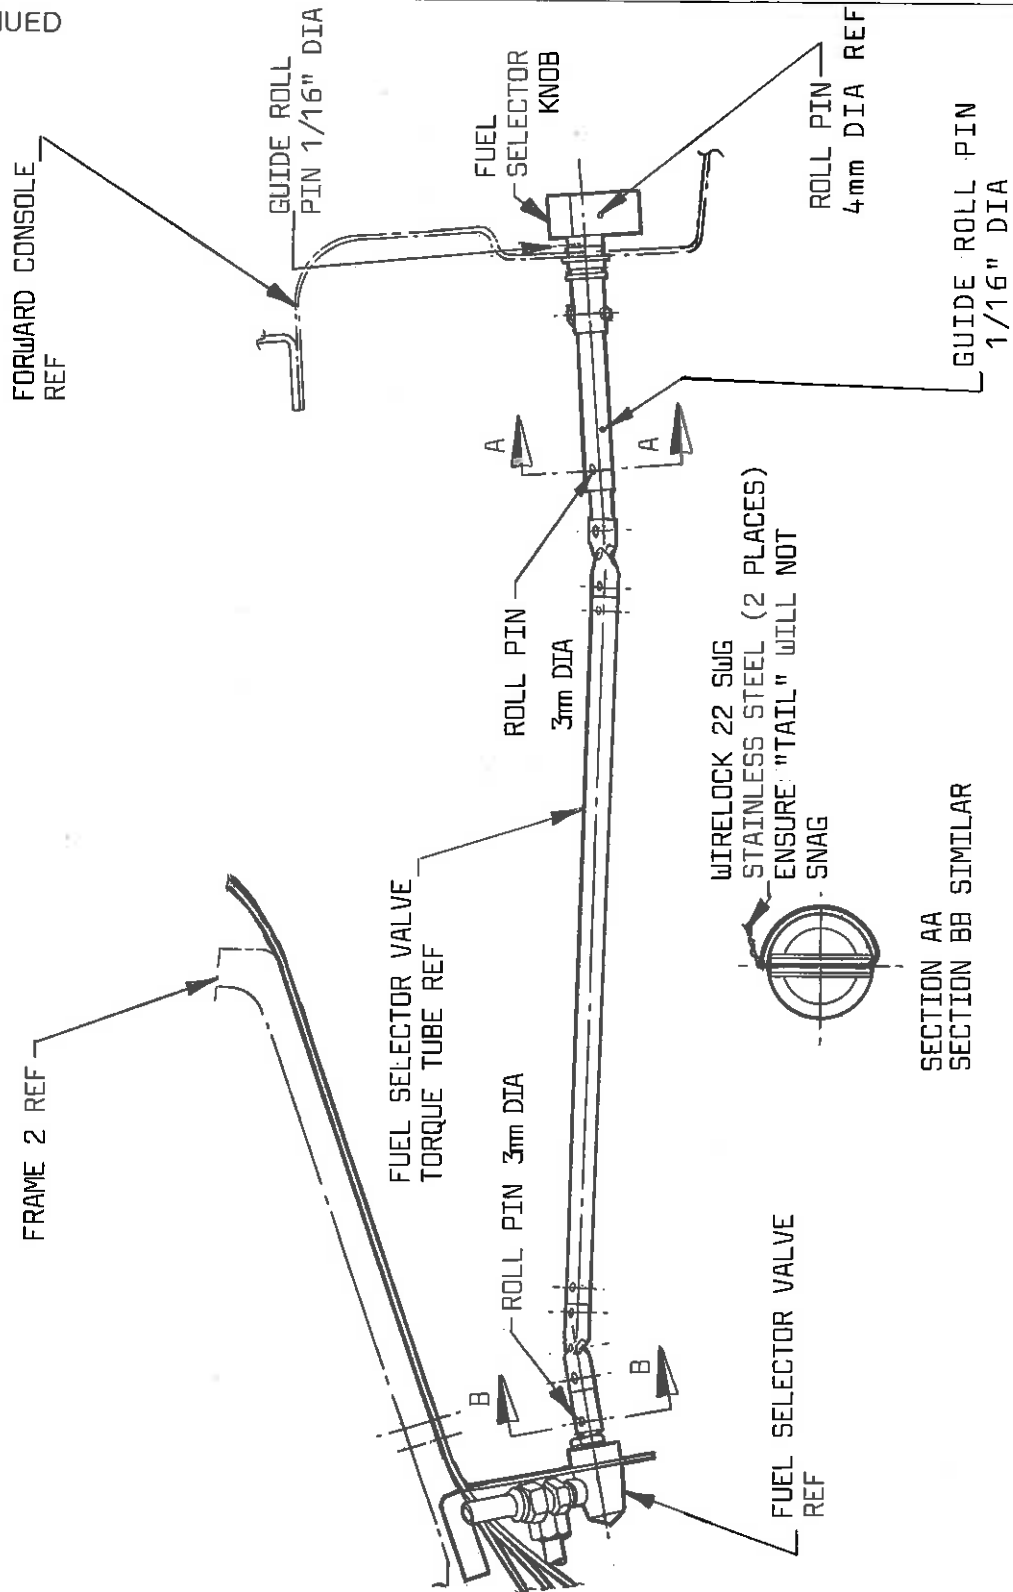

FIG 1
1. Inspect the two roll pin positions, Sections AA & BB of Fig. 1, for missing, loose, distorted or broken pins. If the pins can be turned in the hole, remove pin and check the hole size. For 3mm hole, replace with new pin existing Part No. 126-25-012. If hole is larger (for 0.125" dia use different roll pin Part No. 126-25-411). If hole is greater than this consult SAL for correct part number or action as replacement items may be required.
2. Check that guide roll pins 126-25-406 2 positions indicated in Fig. 1 are not damaged or loose. These are to be replaced if fault found.
3. Insert wire locking 120-08-012 (22 swg) through roll pins indicated at Sections AA and BB of Figure 1.